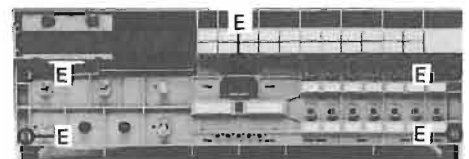

Fig. 2.5
2.5 Removing the operating panel (Fig. 2.5)